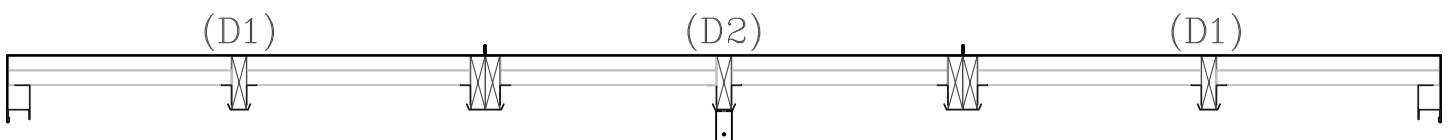

FIG. 3
11. Position the “D2” (roof) middle panel (Fig. 3) between the “D1” (roof) end panels and set it in place. Place Inner Roof Connection Brackets under both “D1-D2” rafter panel connections on the inside and then fasten them into place (Fig. 2E) using Hex Head Screws.
16. Position a Narrow Roof Bracket under the “D2” (roof) panel middle rafter at the “F” (support) post stud (Fig. 3) on the first side of the enclosure and then fasten it in place using two (2) Hex Head Screws.